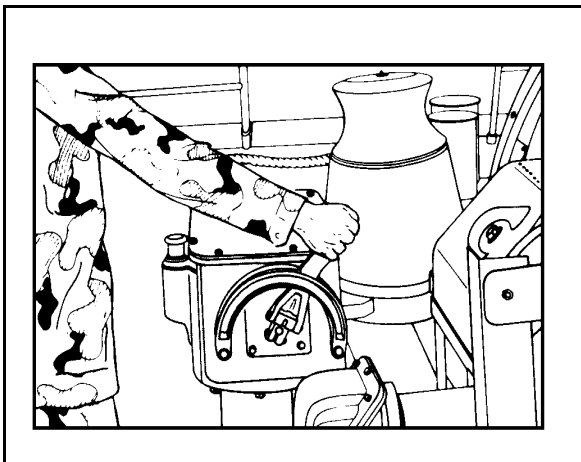

Figure 21-22. Checking Controller
- Turn on the power switch and then push the control handle forward to the lower position (Figure 21-22, page 21-20). Put it in this position just long enough to hear the power turn on, then bring the control handle back to the stop position.